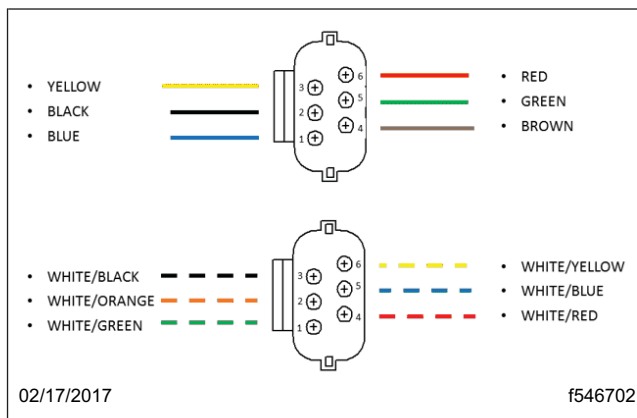
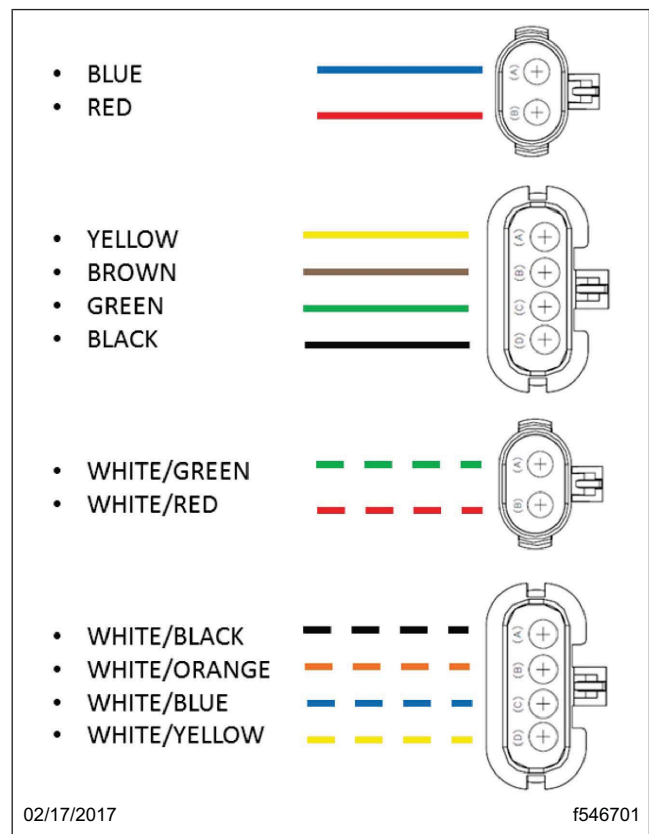

Fig. 36, Pinning From
Fig. 37, Pinning To
52. Cut the primary receptacle connectors off and populate with terminals, seals, and connectors as shown in Table 13, Fig. 36 and Fig. 37.